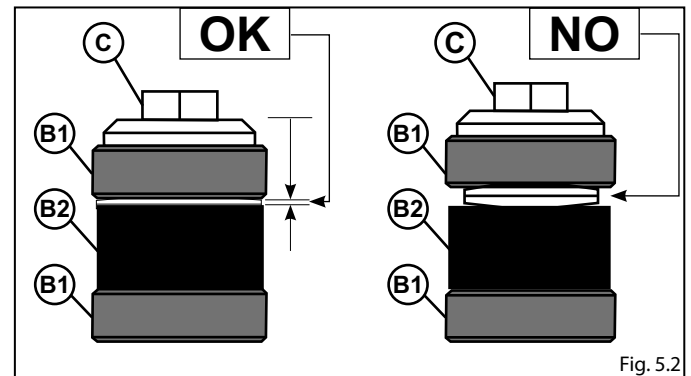

Fig. 5.2
- Stretch the belt by tightening screw **C** of Belt straightener **20** until sleeve **B2** is approx. 0.5 mm far from **B1** (Fig.5.2).